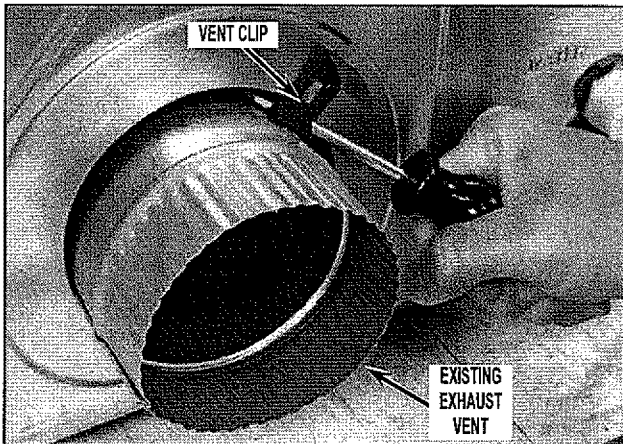
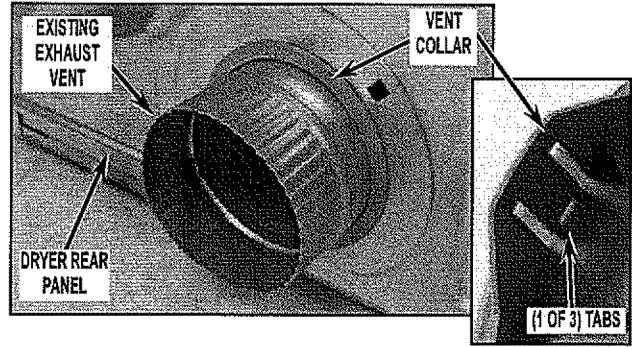

FIGURE 6
FIGURE 7
- Remove either a vent clip (See Figure 6) or a vent collar (See Figure 7). For the vent clip, remove by lifting up on it. For the vent collar, remove by depressing the three (3) tabs on the collar and pull collar out away from dryer rear panel.